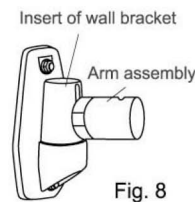

Fig. 8
- 3-5 Two persons hold up separately the machine head and the arm assembly at the same time. Place the tip of the arm assembly in the insert of wall bracket. (Fig. 8)